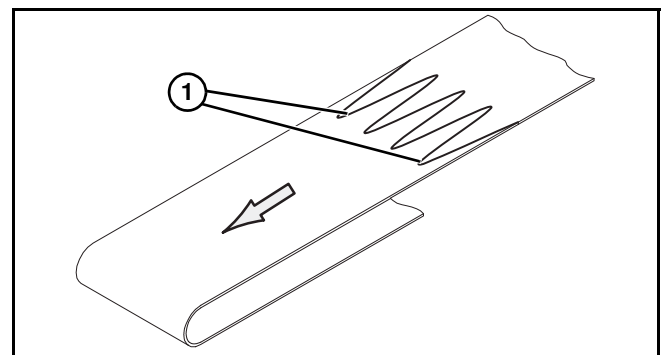

Figure 50
1. Orient the conveyor belt so that the splice outer fingers (**Figure 50, item 1**) point in the direction of belt travel, indicated by the label (**Figure 49, item 1**).